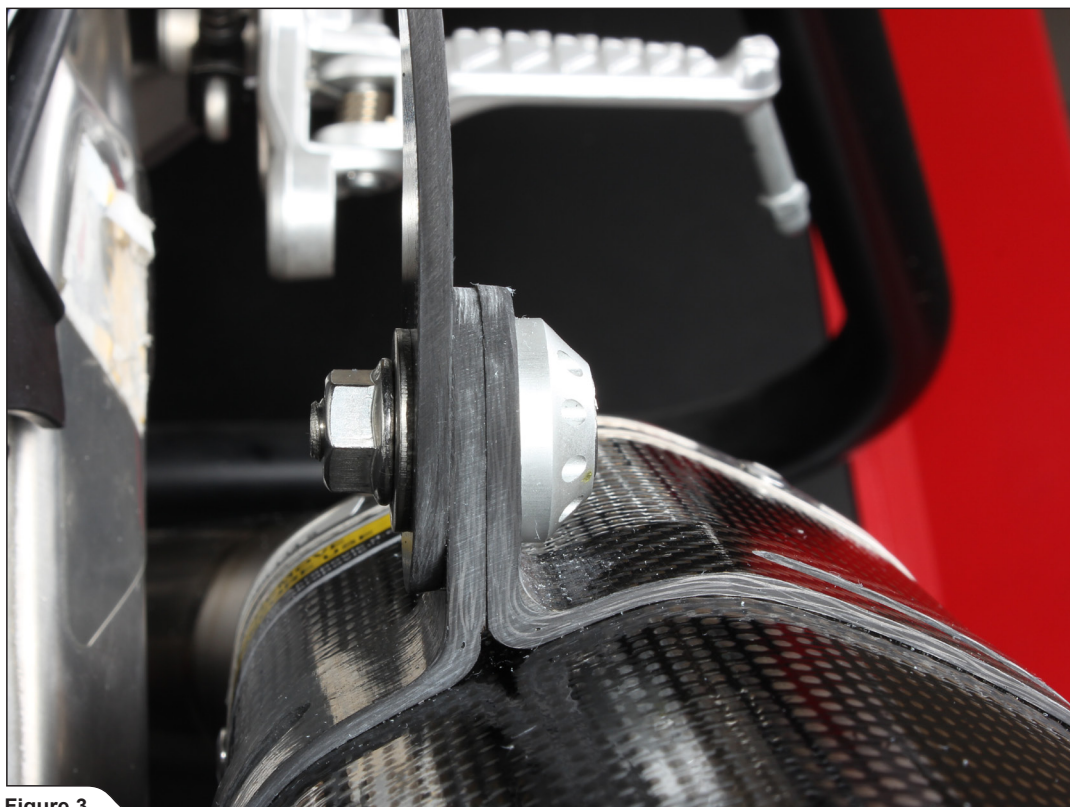

Figure 3
2. Install the Akrapovič exhaust system (check the exhaust system installation instructions for details). Tighten the muffler's carbon-fiber clamp onto the bracket (using bolt, washer, nut, spacer from Akrapovič installation kit and stock Aluminium washer) to the specified torque (**Figure 3, 4, 5**).